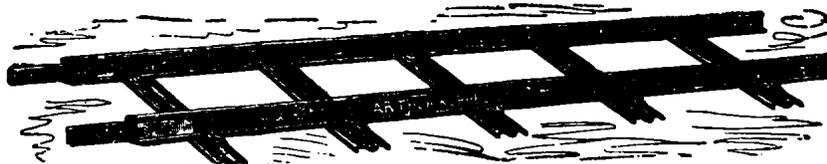

FIG. 2.—Section of Portable Track
10. **Rails and connections.**—The rails may either be bought already fastened to metal ties, or the rails and ties may be ordered separately. In the former case, the sections are known as **portable track**, and usually come in 15-ft. sections (fig. 2).